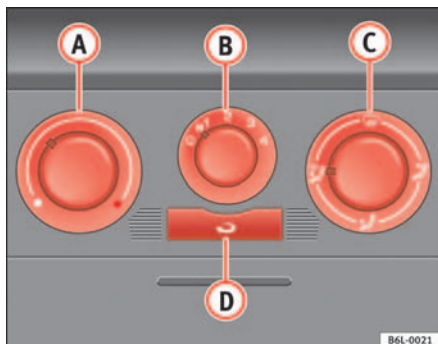

Fig. 90 On the dash panel: Heater controls
- Using the controls ⇒ fig. 90 **A** and **C** and with the switch **B** you can set the temperature, air distribution and the blower speed.